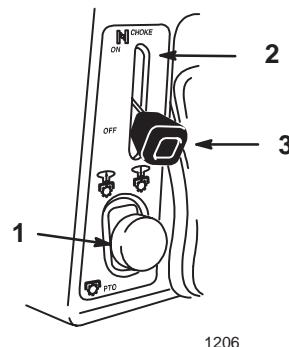

Figure 4
3. Push the PTO (power take off) to "OFF" (Fig. 4).
4. Move the choke lever to "ON" (Fig. 4).